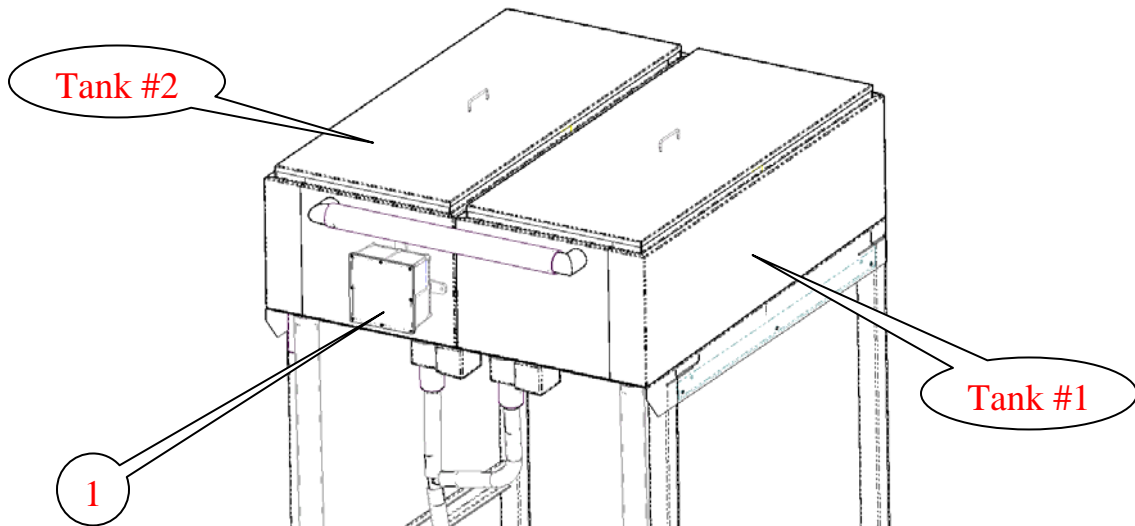

Figure 15.
Attach the control box (1) to the #2 tank with the supplied fasteners as shown in Figure 15.